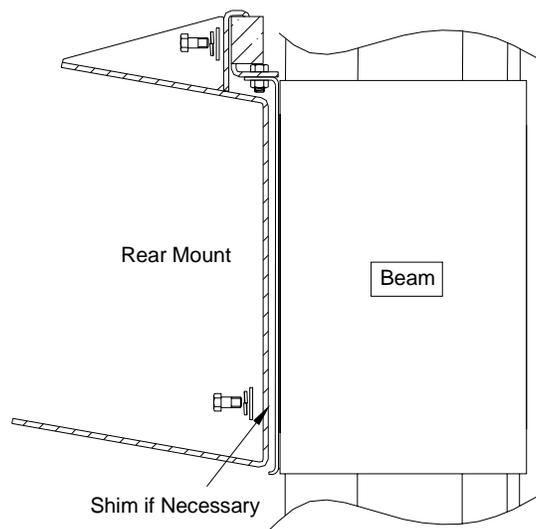

FIGURE 5
18. The camera beam and bracket assembly can now be lifted and hung from the "L" bracket. See **Figure 5**
19. Secure the camera beam and bracket assembly to the rear of carrier using four 1/4"-20 x 1" HHCS and related hardware. It may be necessary to add shims to accommodate the gap between the lower mounting bolts. See **Figure 5**